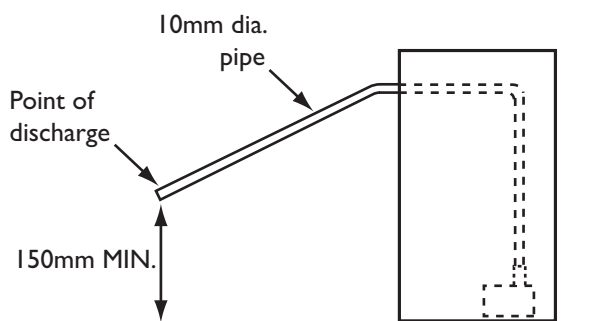

Fig. 16
9. If the entire length of discharge pipe is 10mm diameter pipe the **point of discharge** into a drain or similar must be a MINIMUM of 150mm above the base of the boiler to prevent syphonic action emptying the sump (Fig. 16).